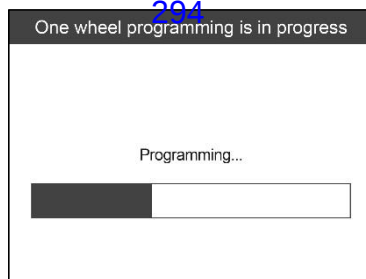
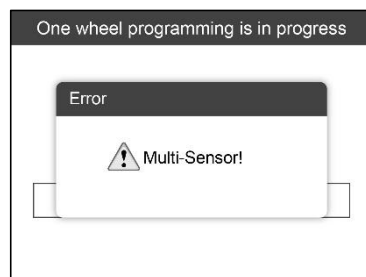

Figure 5.18
Figure 5.19
- 4) Press the **Y** button to write in the new created sensor ID to the MX-Sensor and the screen will show as below (Figure 5.18). If an error prompts, please keep the MX-Sensor to be programmed away from other MX-Sensor (Figure 5.19).